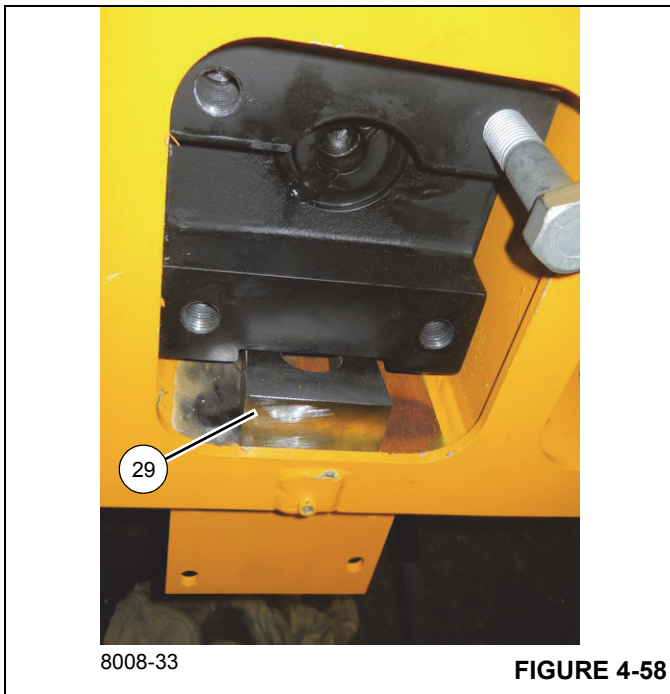

FIGURE 4-58
124. Locate and weld the two wedges (29) to the base section (1) by doing the following (see Figure 4-58):
- a. Position the wedges (29) between the telescope cylinder (6) and the plates on the trunnion.
- b. Center the telescope cylinder (6) between the top and bottom plates.
- c. Bolt the telescope cylinder in place using the two plates (30) and four bolts (31).
- d. Tack weld the two wedges (29) to the plates of the trunnion.
- e. Remove the four bolts (31) and two plates (30).
- f. Remove the telescope cylinder (6) from the trunnion area, then weld the two wedges (29) in place.
- g. Reattach the telescope cylinder (6) to the base section (1) using the two plates (30) and four bolts (31).